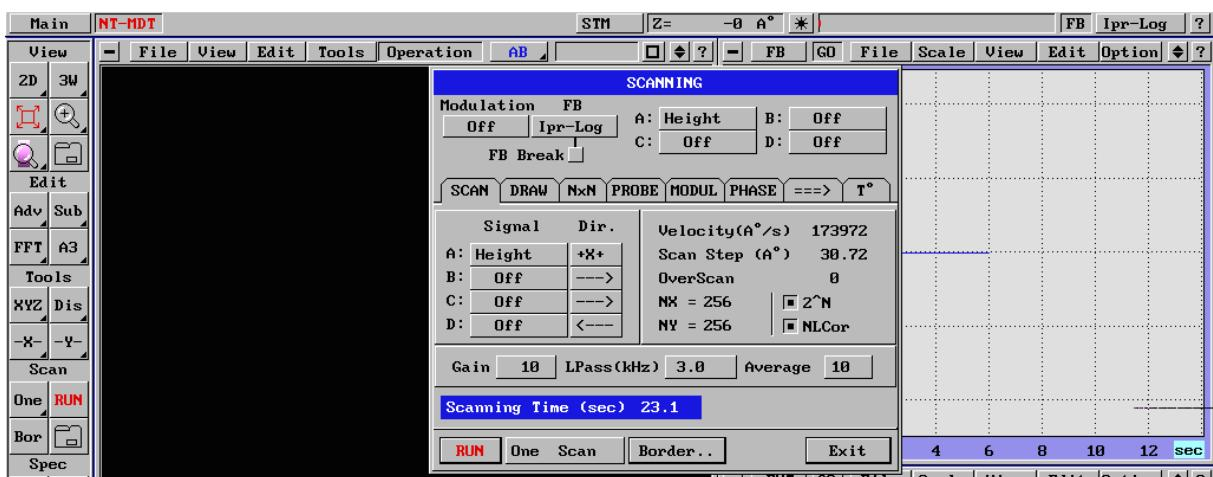

Fig. 57
Velocity = 200000 (Fig. 57)
Step (A) - 20 - 40 (Fig. 57)
NX x NY - 256 x 256 (Fig. 57)
NL Corr - on (Fig. 57)
A: Scan dir - +X+ (Fig. 57)
Gain = 10 (Fig. 57)
Lpass(kHz) = 3 (Fig. 57)
Average = 10 (Fig. 57)